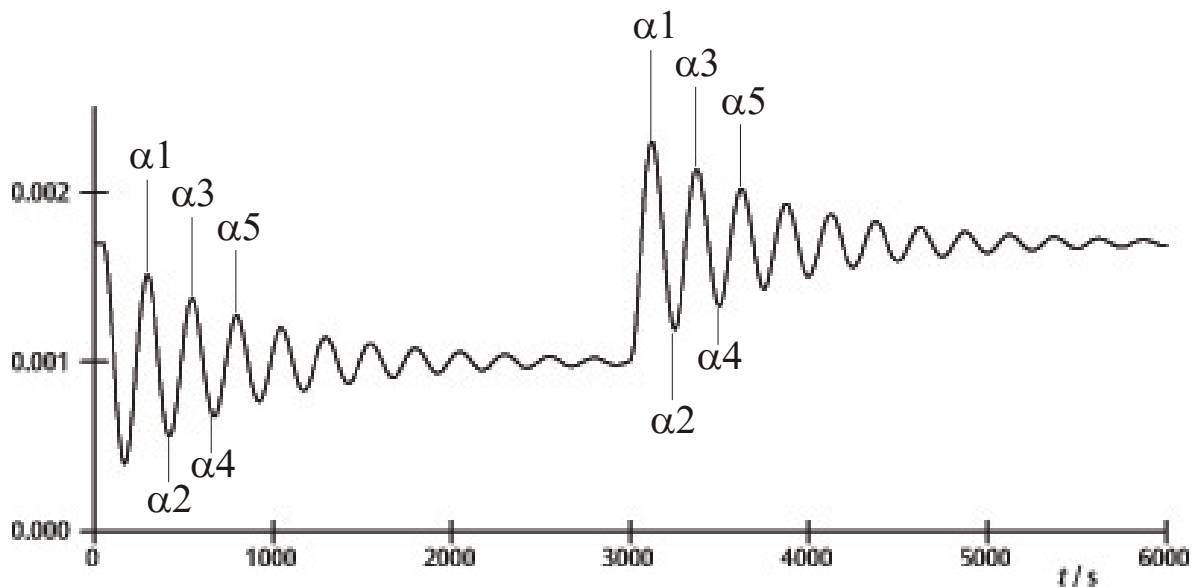

Fig. 7 Determination of equilibrium points
- Use the cursor to mark the maxima and minima of the curve and read off the values in the "Data" field on the information bar (see Fig. 7).